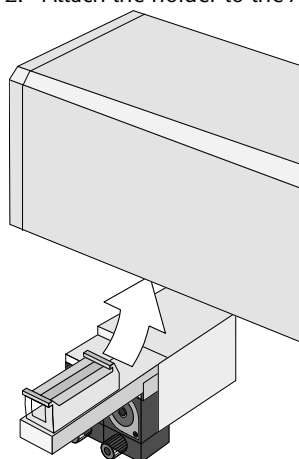

Figure 8. Attaching the Pump Holder Bracket to the X-Axis.
2. Attach the holder to the X-axis as shown below, in Figure 8;